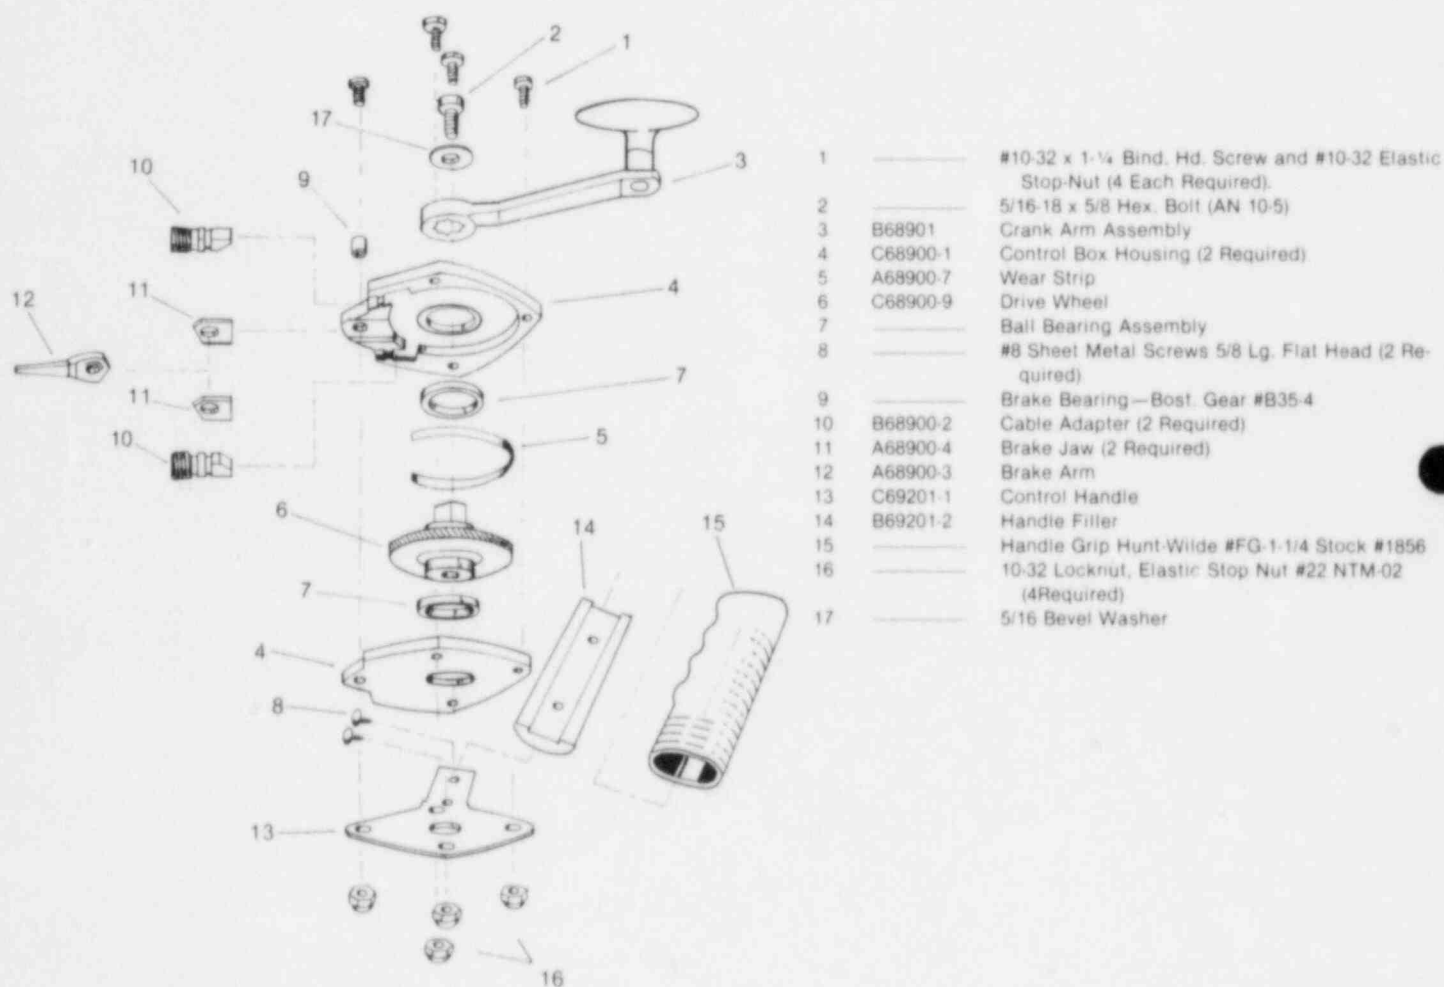

Figure 7.4 Model 692 Control Unit—Exploded View
1. Follow steps 1-5, Disassembly, Model 664 Assembly. Refer to figure 7.4 for further disassembly and for part identification numbers.
3. Secure the control box to the control handle (17) with the four large binder head screws and  $\frac{3}{8}$ " nuts, and secure the crank arm (3) to the shaft with the  $\frac{5}{16}$ " bevel washer and  $\frac{5}{16}$ " hex head bolt. Follow step 12, Reassembly, Model 664 Assembly, to check operation.